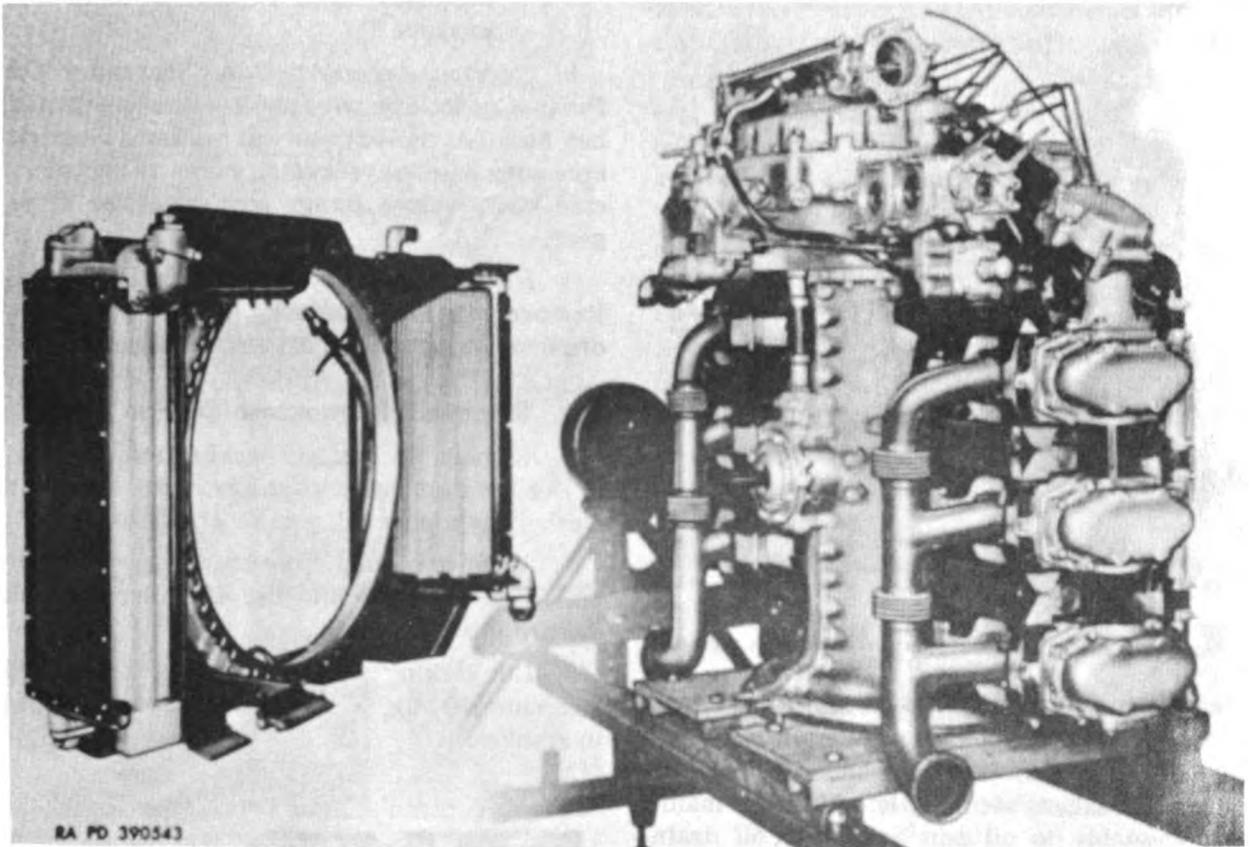

Figure 39. Engine shroud and oil coolers removed from engine.
- (4) Cut locking wire and remove four hex-head bolts (B, fig. 38), flat washers, and spacers securing engine shroud to crankcase and, with the aid of an assistant, remove shroud and oil coolers from engine. Figure 39 shows engine shroud and oil coolers as removed from engine.